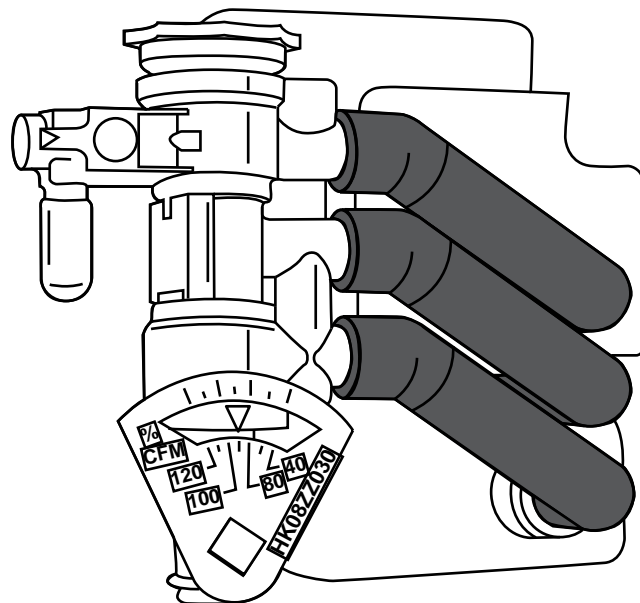

Fig. 10 — Volume Controller Connected to Filter
9. Moisten the O-rings of the volume controller with water and push the controller directly into the filter elbow connections. See Fig. 10.